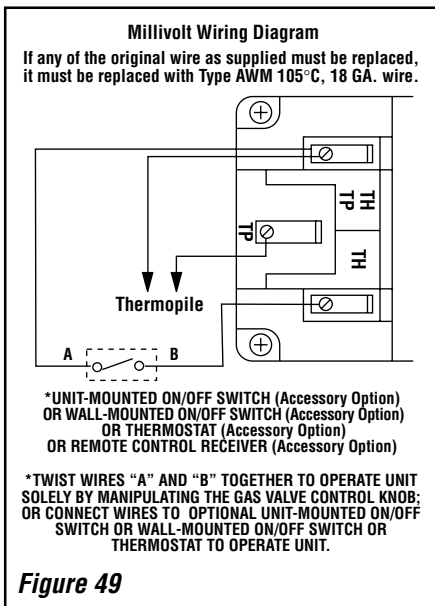

Figure 49
A. Millivolt Wiring (See Figure 49) –
4. Alternatively, the appliance may be operated without the use of the controls indicated in step 1, solely by manipulating the gas valve control knob. In order to use this method, twist the free ends of the two conductor wire (located in the bottom compartment of the unit) together as shown in **Figure 49**.